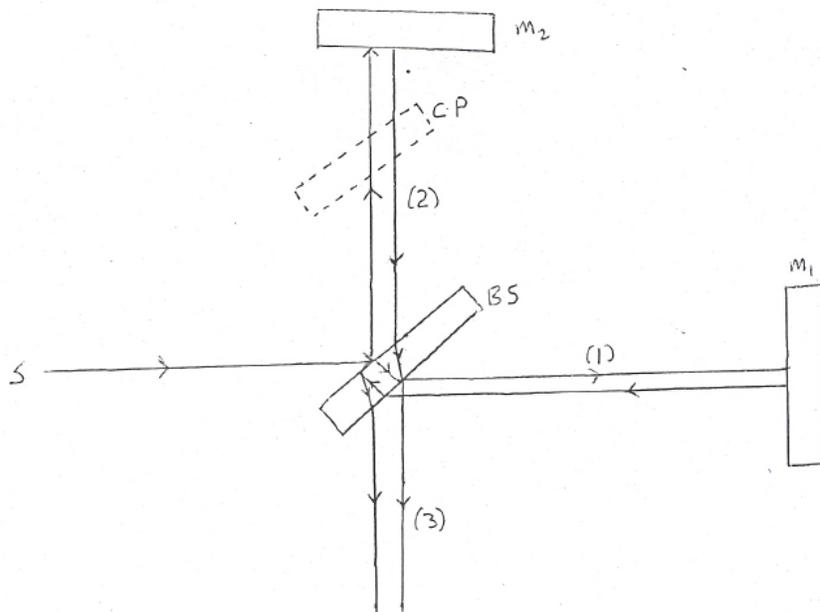

Figure 1:
See Fig. 1. Light from a source S is directed onto a beam splitter (BS) which is oriented at 45 degrees with respect to the source. The light source can be diffuse, such as from a discharge lamp, or directed, as from a laser. The BS is a plate of glass which is coated on one side so that about 50% of the incident light is reflected and 50% is transmitted. The light that is transmitted by the BS, along with the light reflected from mirror M_1 , form beams (1). The light that is reflected from the BS, along with the light reflected from mirror M_2 , form beam (2). Beams (1) and (2) are then respectively reflected from and transmitted through the BS and form beam (3), which is observed. If the source is a modestly powered discharge lamp, beam (3) can be observed with the